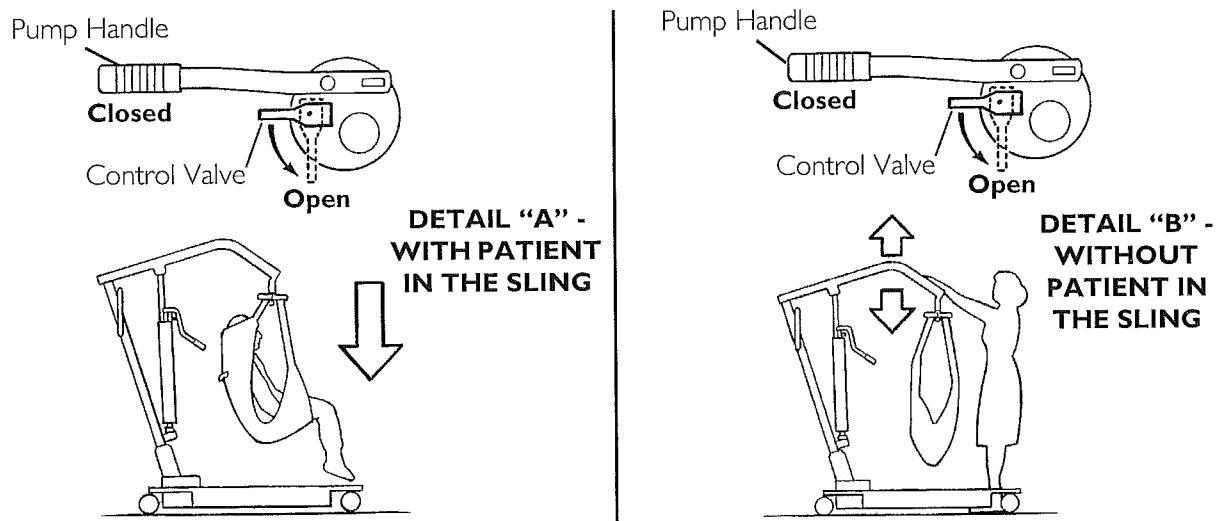

FIGURE 3.4 Lowering the Hydraulic Lift
NOTE: For this procedure, refer to FIGURE 3.4.
- Gently open the control valve. See Detail "A" of FIGURE 3.4.
- Open the control valve and pull down on the boom. See Detail "B" of FIGURE 3.4.